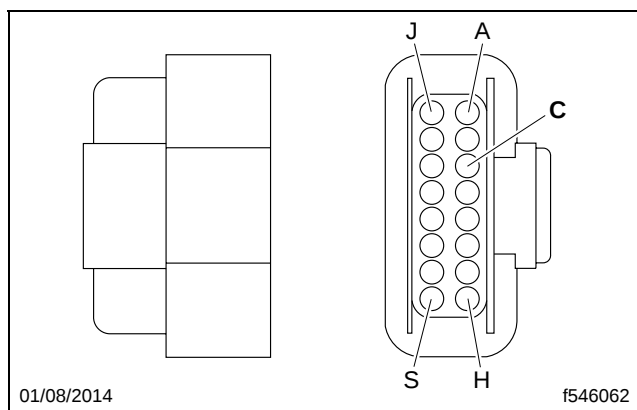

Fig. 3, Gauge RX Module Connector 2A
10. Insert the female terminal (23-13212-020) end of the new wire into cavity C on the gauge RX module connector 2A. See **Fig. 3**.